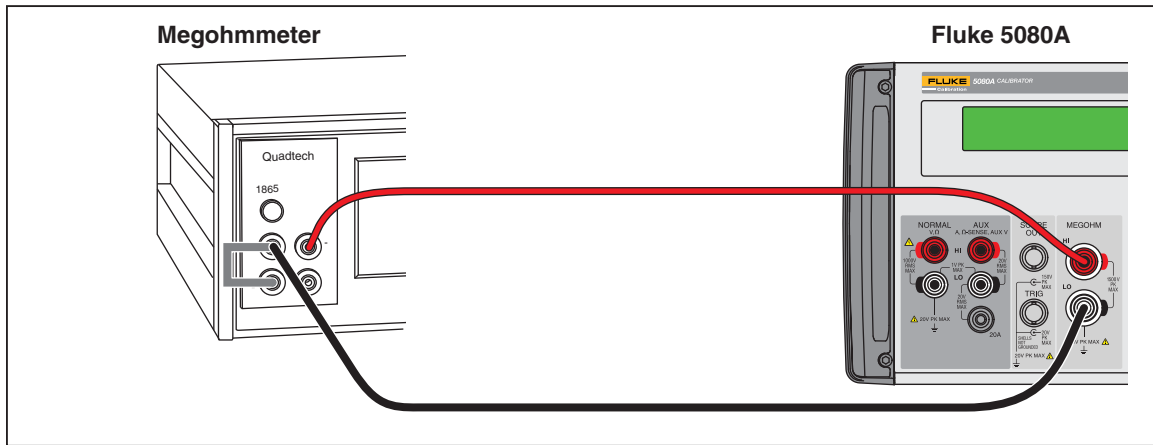

Figure 22. MEGOHM High Resistance Calibration Connections
7. Connect the Product to the Quadtech 1865 Megohmmeter as shown in Figure 22. Make sure that you REVERSE POLARITY on this setup.